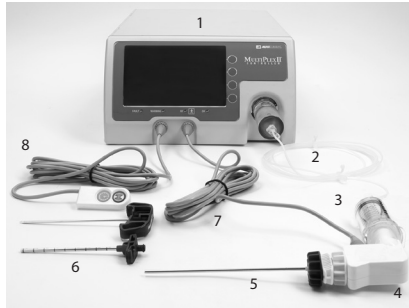

Figure 1. StabiliT Vertebral Augmentation System
The StabiliT Vertebral Augmentation System consists of eight (8) components (Figure 1).